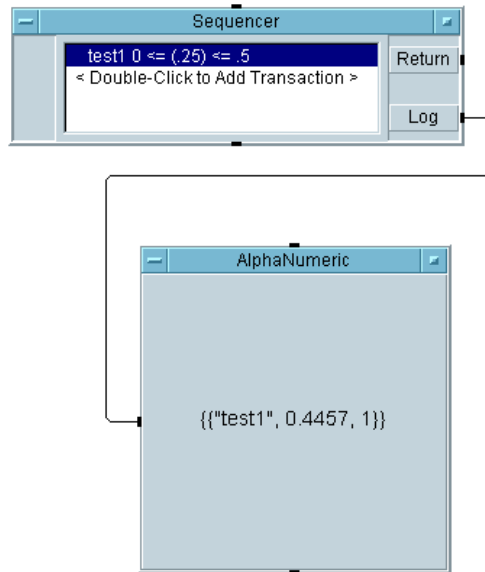

Figure 9-2. Configuring a Test
4. Run the program. It should display the name of the test, the test result, and the pass-fail indicator (1 for PASS, 0 for FAIL) in the display, as shown in Figure 9-2.